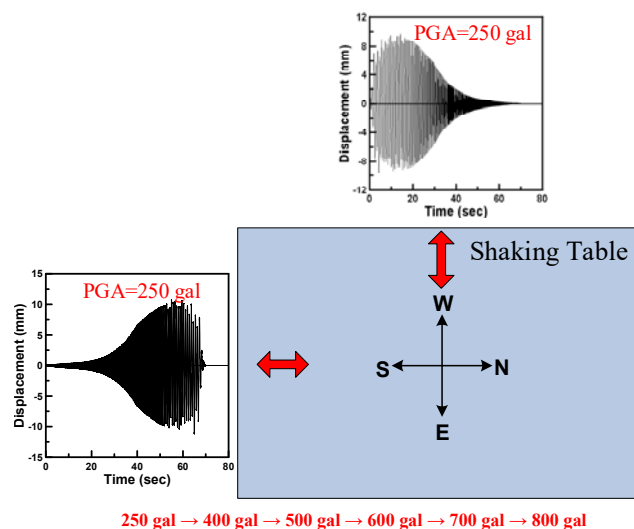

Figure 5. The E-W and N-S components of displacement time histories of the artificial earthquake with the PGA equal to 250 gal.
8.5 Figure 5 shows the two components of the displacement time histories of the artificial earthquake with the PGA equal to 250 gal.